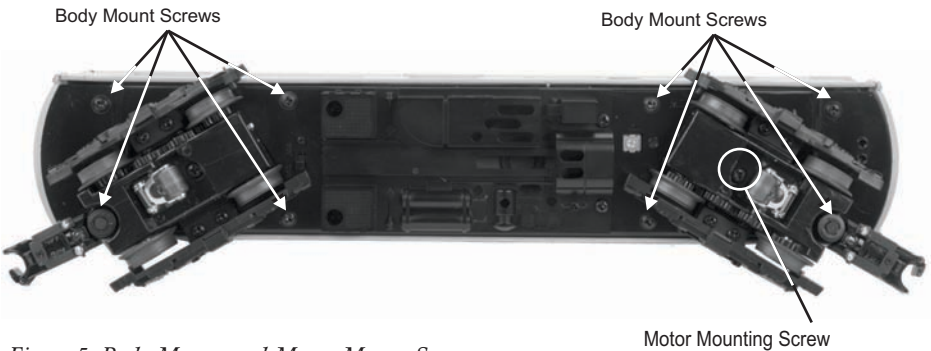

Figure 5: Body Mount and Motor Mount Screws
2. Remove the truck blocks from the chassis by unscrewing the black Phillips motor mount screw on the bottom of each truck block, as shown in Figure 5.